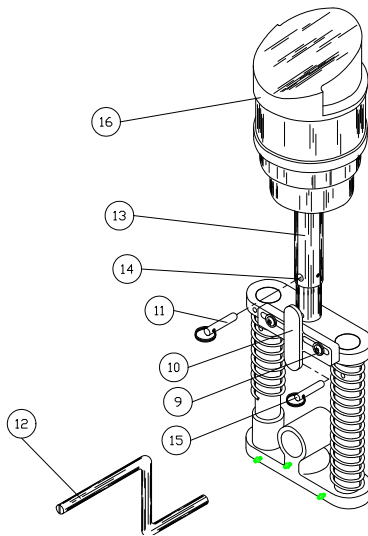

FIGURE 3
**IMPORTANT:** WHEN RE-ASSEMBLING, DO NOT OVER TIGHTEN ANY OF THE SCREWS, AS THIS TENDS TO STRIP THREADS CAUSING PROBLEMS IN THE FUTURE. BE SURE RING ON PIN (11) OF FIGURE 3 IS SECURELY FASTENED OVER LATCH (10). THIS WILL PREVENT LATCH FROM MOVING, SHOULD THE SOCKET HEAD SCREWS (9) LOOSEN DURING OPERATION.